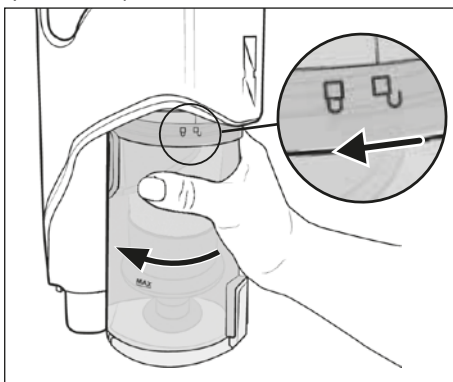

Fig. 18
- 1) To remove the dust container **7** from the appliance, turn it towards the symbol  (open) until it can be detached from the appliance (see Fig. 18).